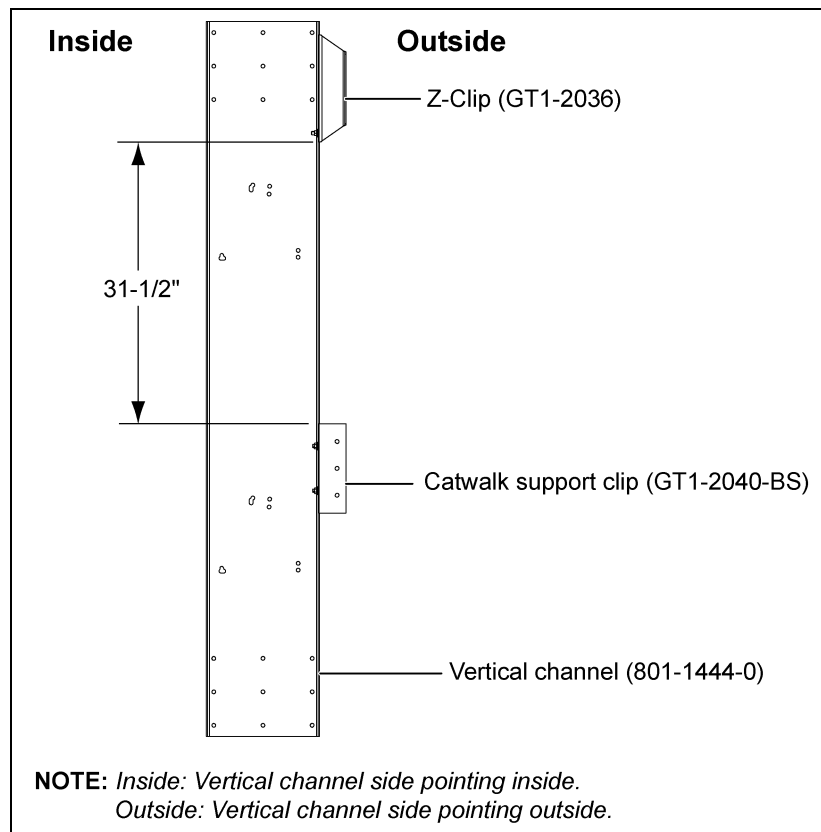

**Figure 6H**
2. The distance between the Z-clip and support clip for 23'-4" offset and roof hatch platform is 31-1/2". (See Figure 6H below and Figure 6J on Page 52.)